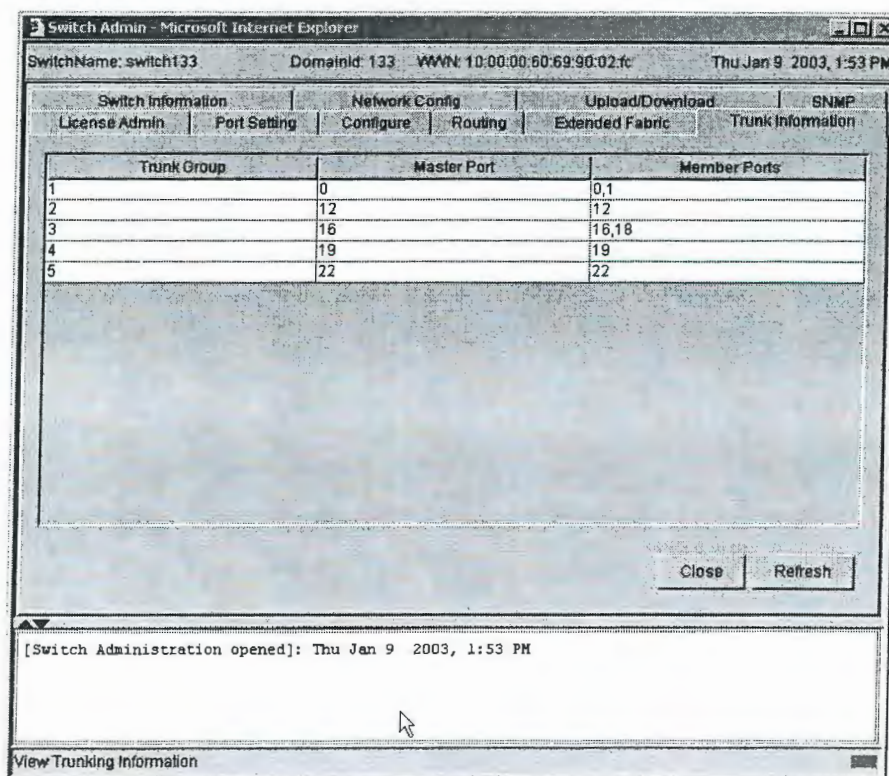

Figure 3-2 Trunk Information Tab in the Switch Admin Window of Web Tools
5. Select the **Trunk Information** tab. See Figure 3-2.